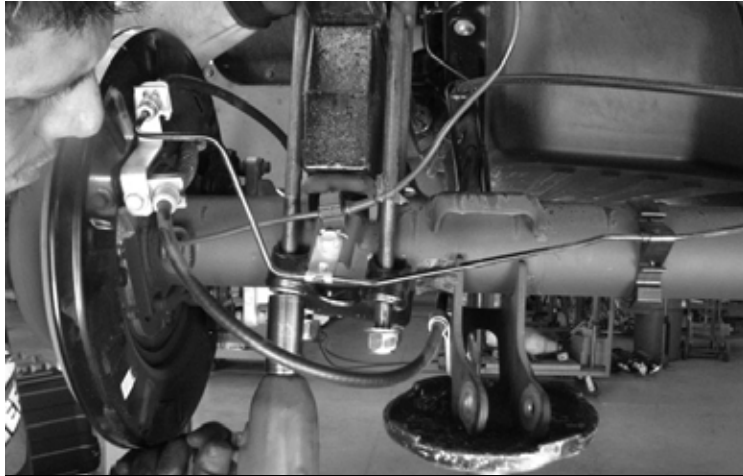

FIGURE 83 - STEP 52
52. Locate FTBK5 (5" Block), FT1500U-3 (Ubolts) and 9/16" Hardware. Install the blocks with the new hardware, the short end of the block should be facing the front of the vehicle. Torque to 184 ft-lbs. **SEE FIGURE 83**